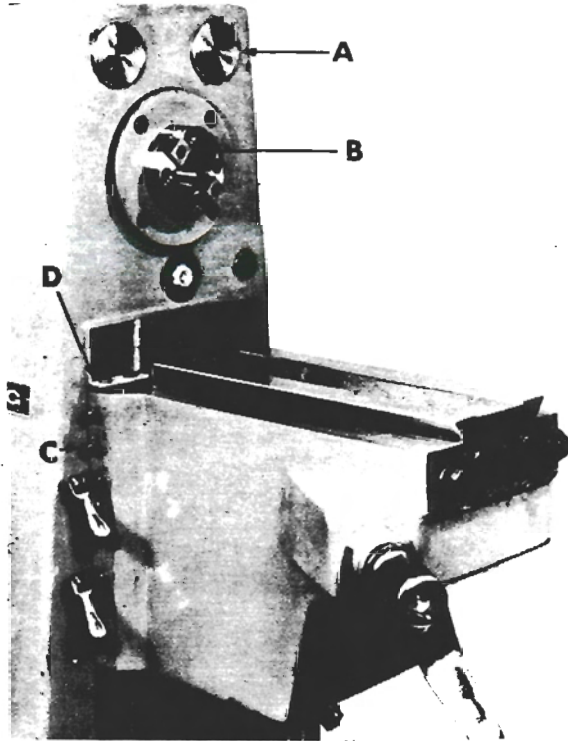

Figure 51
5. Push back over arms (A, fig. 51), remove driving keys (B) from spindle nose.
6. Take wiper off gib (D) side of knee and run knee up near top of dovetail.
8. Loosen gib screws (C, fig. 51) far enough to remove gib, from bottom of knee, then lift knee off top of dovetail